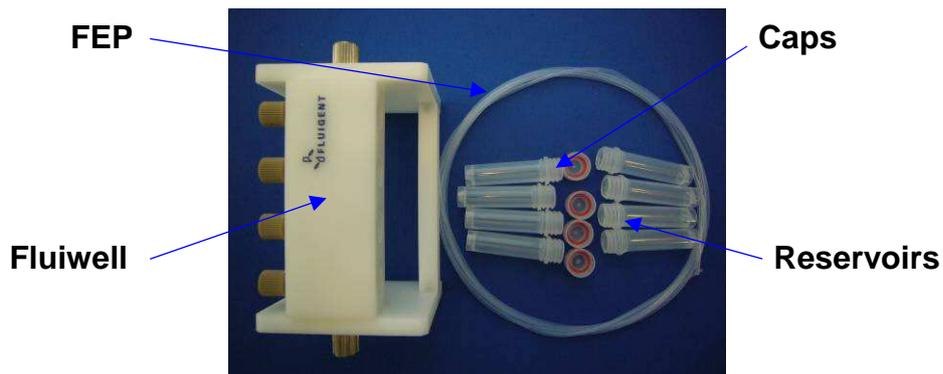

Figure 3 Fluiwell package
- The pressure range of the pump should suit your MFCS input pressure (see Figure 3)